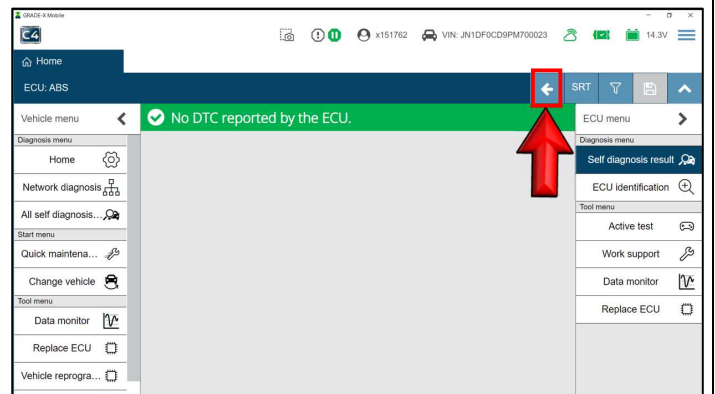

Figure 32
29. Select the back arrow. (Figure 32)